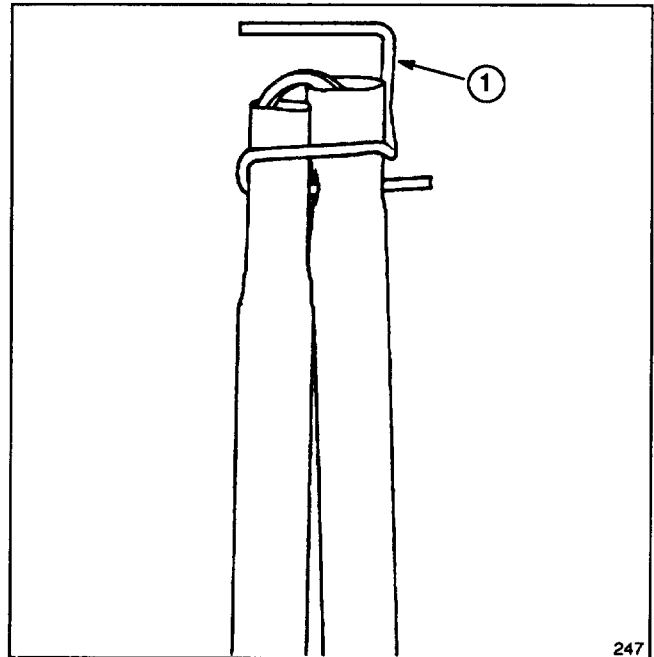

Figure 1
1. Remove shipping wire secured to upper and lower tube sections (Fig.1).